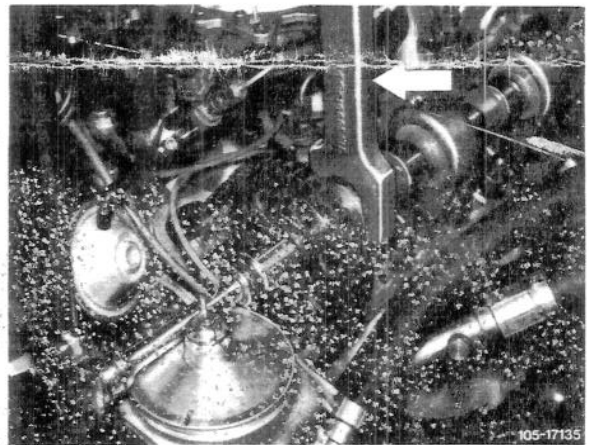

Figure 1
8. Hold camshaft with special retaining wrench and loosen stretch bolt on each camshaft sprocket (Figure 1).